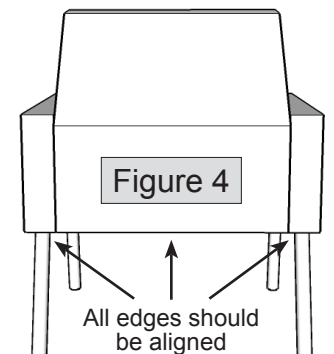

Figure 4
7. When properly connected, bottom edge of back cushion should align with bottom edges of arm frames, as shown in figure 4.
10. With all bolts connected but still loose, stand chair upright on a level surface. Align bottom edges of arm frames, back cushion and seat cushion (figure 4) and tighten all bolts securely.